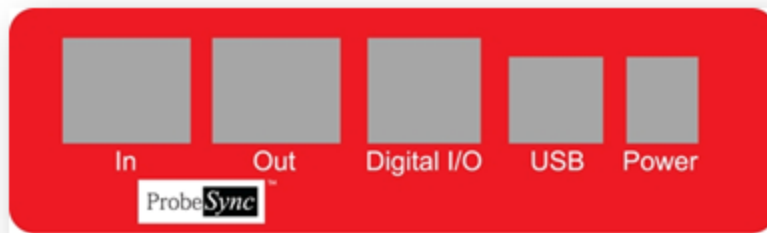

Figure 2.3 - Back Panel - Power
1. Insert the power cable (DC connector) from the 12 volt AC adapter into the "Power" port on the Frontline BPA 500(Figure 2.3).